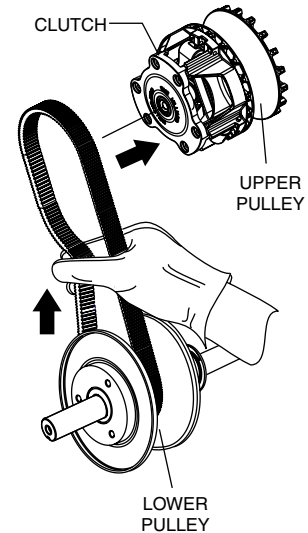

Figure 32. Upper Pulley Belt Installation
2. Place free end of CVT belt into upper pulley grooves See Figure 32.